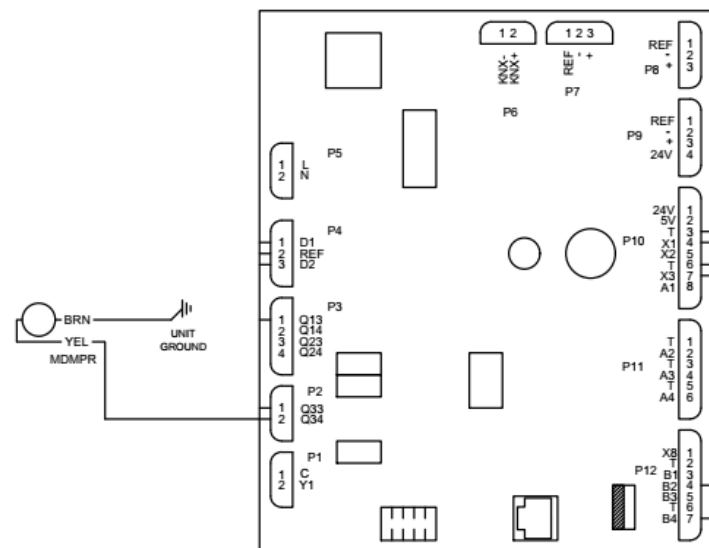

FIGURE 27 - Outside Air Damper Connection
2. Attach 24V lead to Q3 (See **FIGURE 27 - Outside Air Damper Connection**) on the ERV control board.